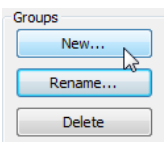

Figure 5—Create or edit Parameter Groups
2. Give the Group a name and click OK (see Figure 5).